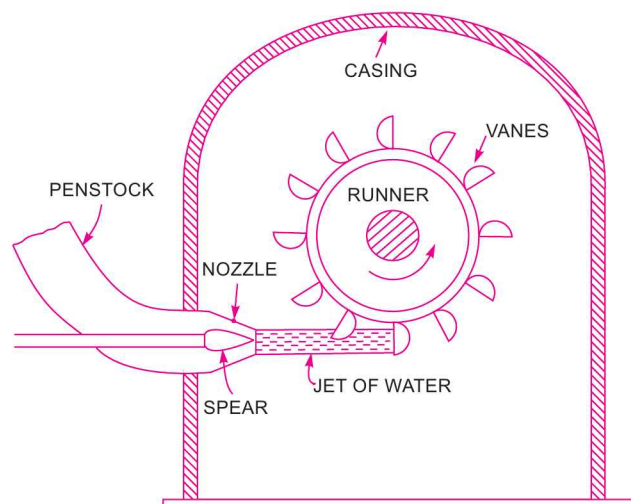

Fig. 18.4 *Pelton turbine.*
3. Casing. Fig. 18.4 shows a Pelton turbine with a casing. The function of the casing is to prevent the splashing of the water and to discharge water to tail race. It also acts as safeguard against accidents. It is made of cast iron or fabricated steel plates. The casing of the Pelton wheel does not perform any hydraulic function.